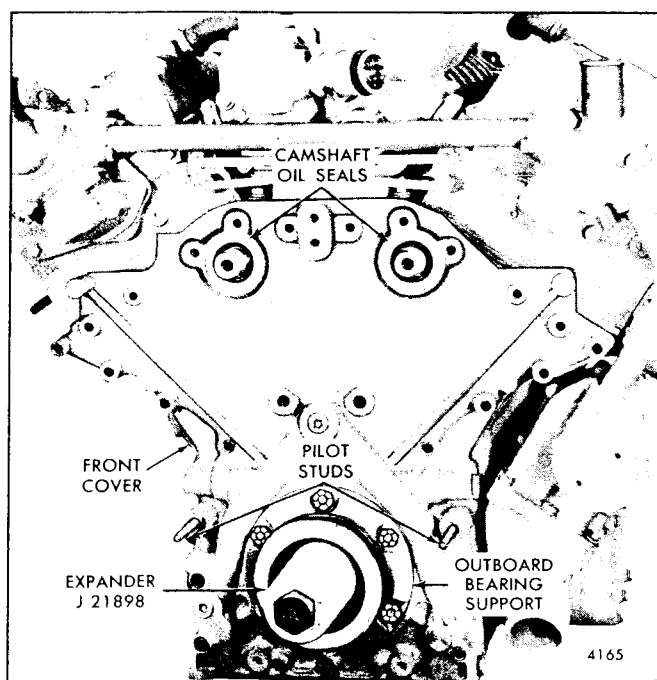

Fig. 4 - Installing Engine Front Cover - 8V-Engine
3. Install two pilot studs (Fig. 4) into diametrically opposite bolt holes in the cylinder block to guide the engine front cover in place.
- a. Install oil seal expander J 21898 (Fig. 4) over the end of the crankshaft. Then apply a light coat of cup grease to the lip of the oil seal and install the outboard bearing support over the oil seal